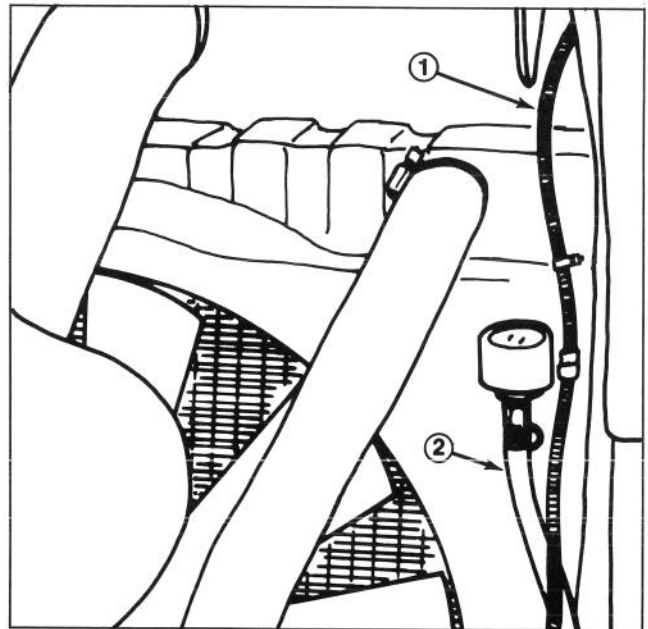

Figure 22
2. On the engine side of the cowl, route the harness up the right side of the radiator and through the 1 in. hole at the top of the cowl (Fig. 22). Secure the wire to the breather tube with cable ties.